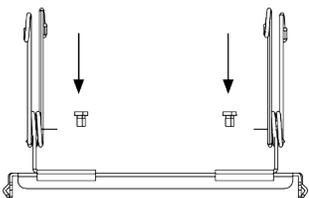

Fig. 12
1. Attach retrofit mounting clips to the mounting bracket. (Fig. 12)